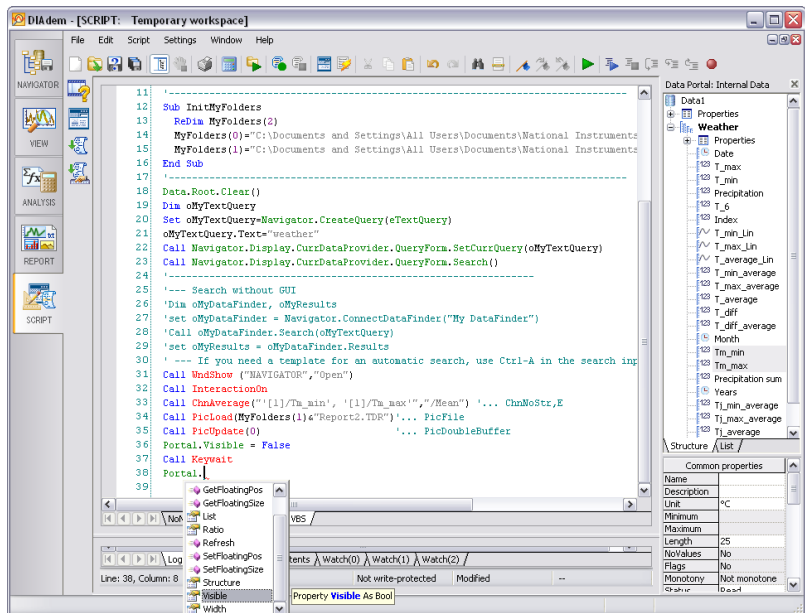

Figure 6-3. CodeCompletion Makes Editing Objects Easier
As soon as you enter the dot behind the `Portal` object, DIAdem offers the methods and properties available for this object, as shown in Figure 6-3.
4. Enter the command `Keywait` in the script line as shown in Figure 6-3. Select `Keywait` and press <F1> to open the Help for this command.